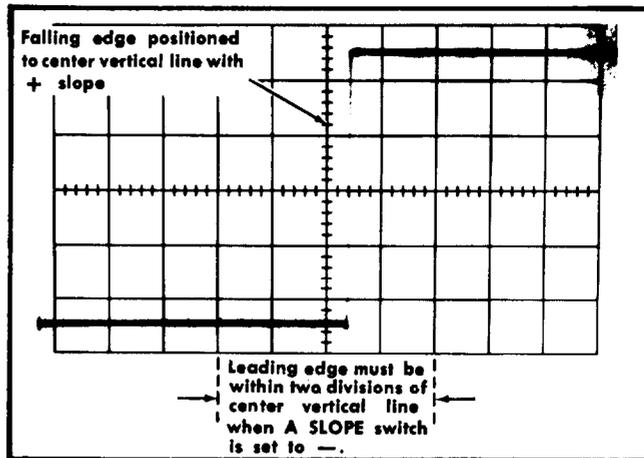

Fig. 6-57. Typical CRT display when checking calibrator duty cycle.
- g. CHECK-50% point on rising edge now displayed not displaced more than two divisions from the center vertical line (duty cycle 49% to 51%; see Fig. 6-57).